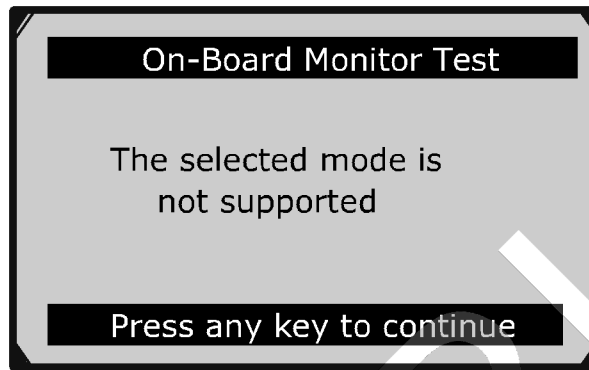

Figure 6.28
- If the vehicle under test does not support the mode, an advisory message will be displayed on the screen. (Figure 6.28)